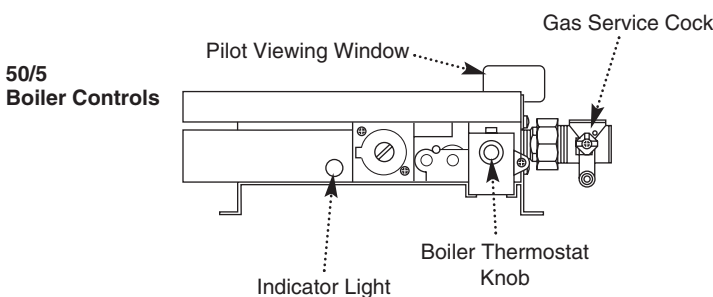

Fig. 2a
2. **Inset 3 Boiler 50/5 Model** (Fig. 2a). If the indicator light is illuminated red/or flashing red, it is necessary to reset the appliance. To do this turn the boiler thermostat control knob fully anticlockwise to the OFF position and wait until the light shows orange. Turn the control knob clockwise to the required setting. The boiler will commence the ignition sequence.